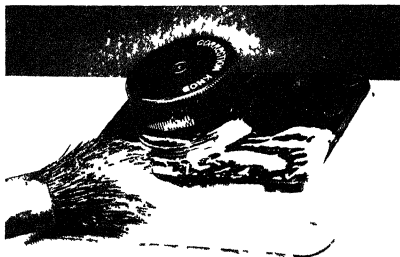

Figure 8-16.—Testing for leaks.
- While you maintain this pressure, brush a soapsuds solution around all fittings, gaskets, screws, the objective window, and the rear eye lens to check for leaks. See figure 8-16.